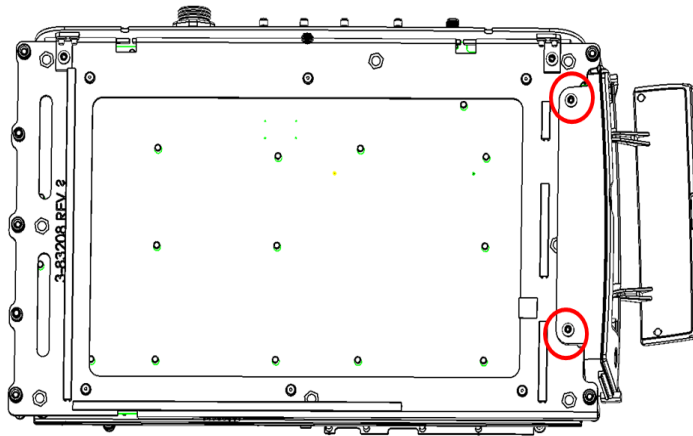

**Figure 5-9.** I/O Housing Removal
5. Remove the plastic I/O Housing by removing the two screws shown in Figure 5-9.